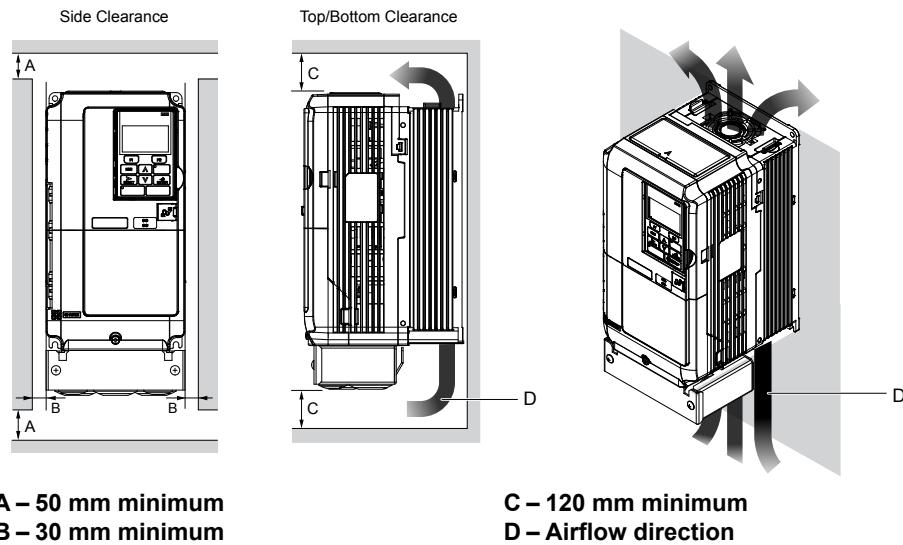

**Figure 2.1 Correct Installation Orientation**
**NOTICE:** Install the drive upright as illustrated in Figure 2.1. Failure to comply may damage the drive due to improper cooling.